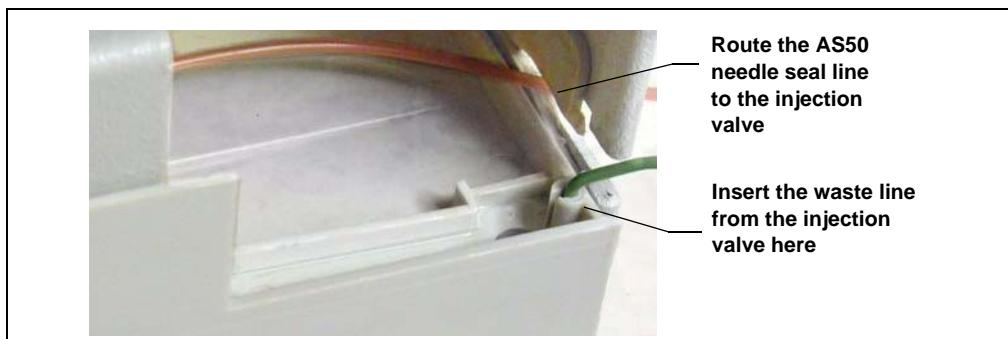

Figure B-5. AS50 Drip Tray
2. The needle seal line that extends from the inject port in the autosampler is coiled inside the AS50 door, on the right side. Route this line through the side slot on the AS50 (see Figure B-5) and then through the side slot on the IC system module to the injection valve.
7. Push the end of the green **AS50 TRAY** line into the small round opening on the right side of the AS50 tray (see Figure B-5).